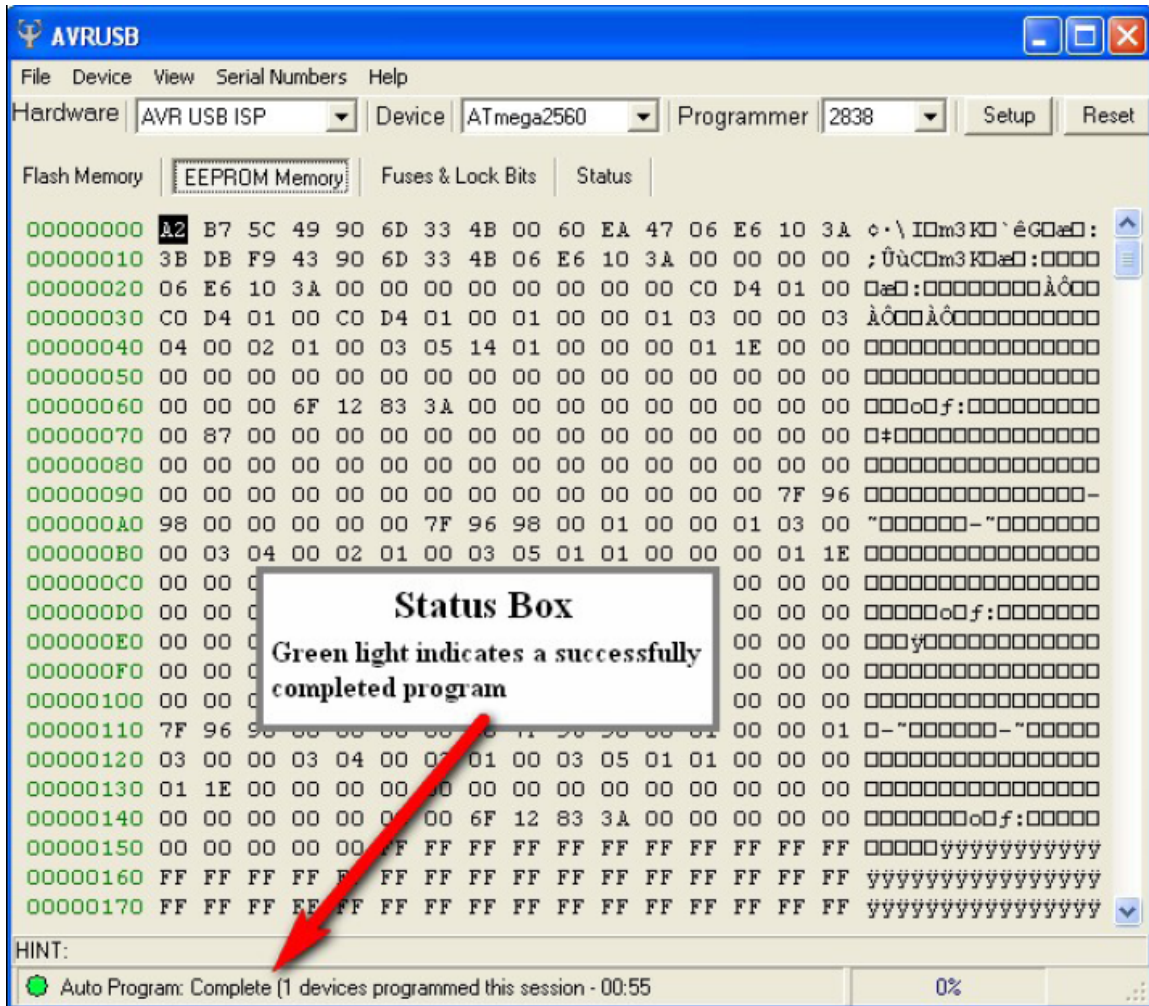

Figure 19
- When programming is complete, the Status Box located at the bottom of the AVR screen will display a confirmation message “Auto Program Complete” along with a GREEN light. See Figure 19.